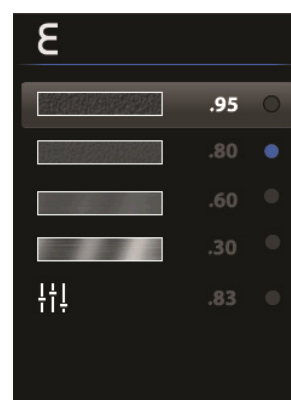

Fig 9-6 Selecting an Emissivity Preset
3. PRESET EMISSIVITY SELCTION: Use the arrow buttons to scroll to one of the preset emissivity factors (95, 80, 60, 30) as shown in Fig 9-6 and then press  to confirm the selection. The meter will return to the Settings Menu.